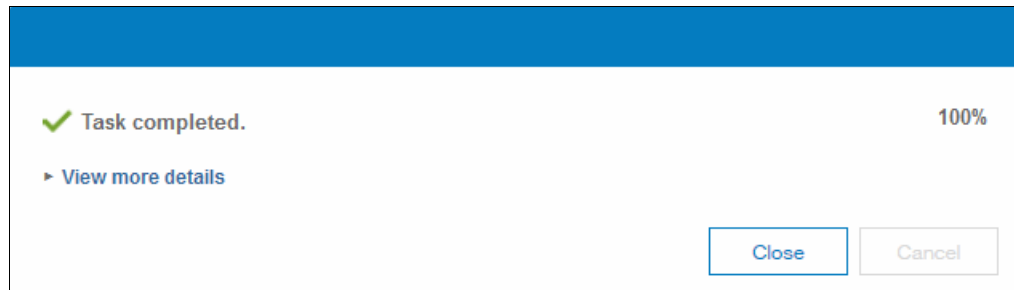

Figure 6-51 System initialization task completed pane
12. The Task completed pane is displayed (Figure 6-51).